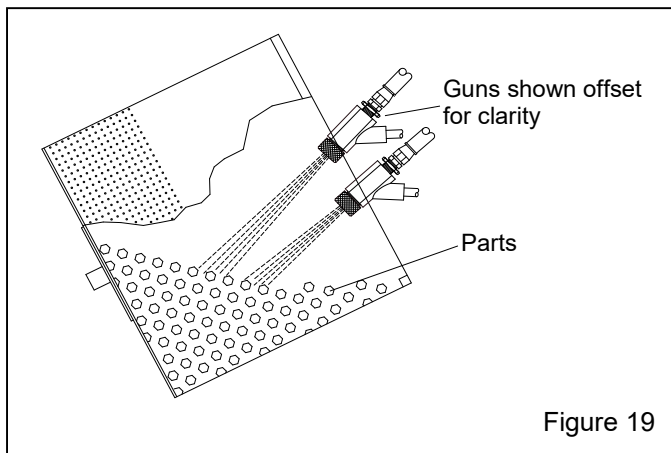

Figure 19
5.7 Gun Alignment – Figure 19
5.7.3 If the guns do not point toward the center of the parts, loosen the gun bodies or slotted brackets and rotate them as required to point the nozzles toward the center of the parts, but at different targets as, shown in Figure 19.